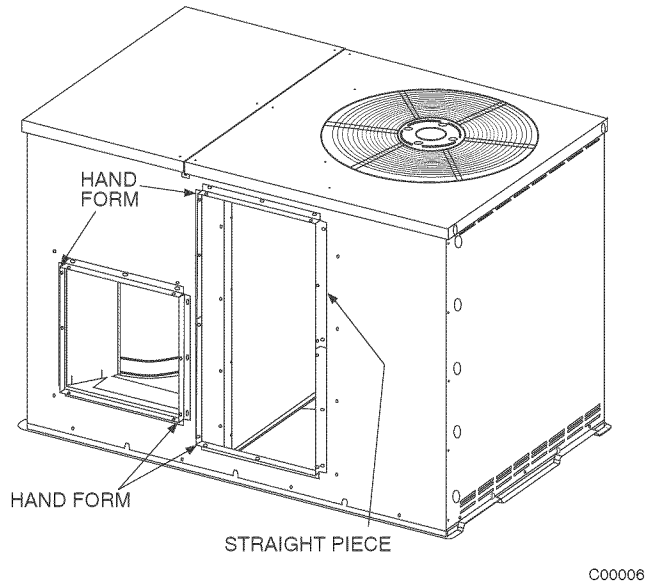

Fig. 6 - Flanges Installed on 50ZP060 Units
3. Install the straight flange on the right side of the return-air opening in holes provided. See Fig. 6. Flanges should stick out from unit to allow for connection of ductwork.